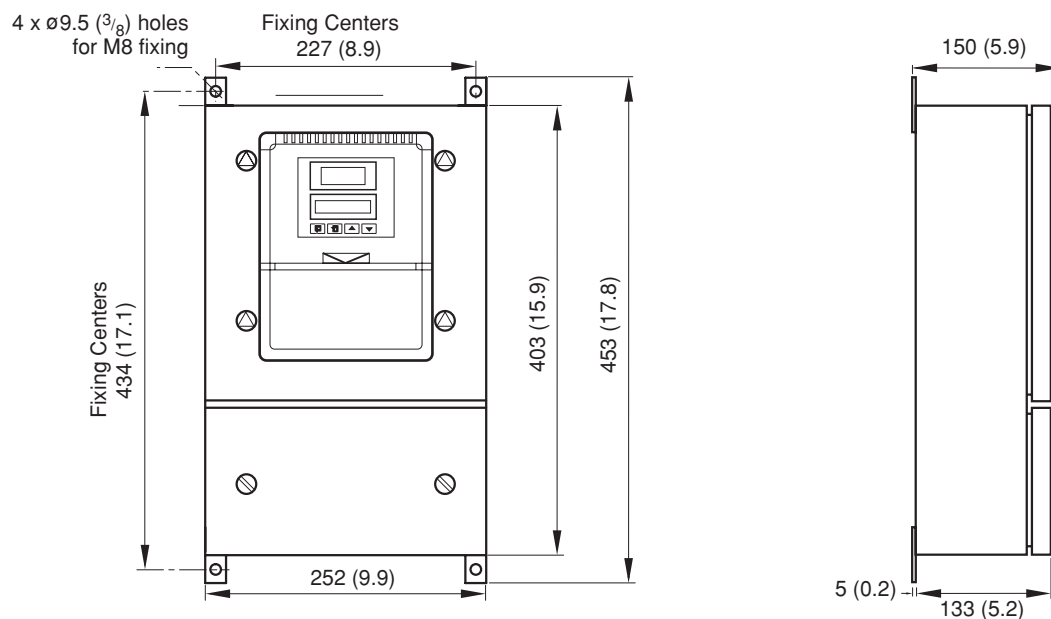

Fig. 2.2 Overall Dimensions
2.2 Installing the Monitor – Figs. 2.2 and 2.3